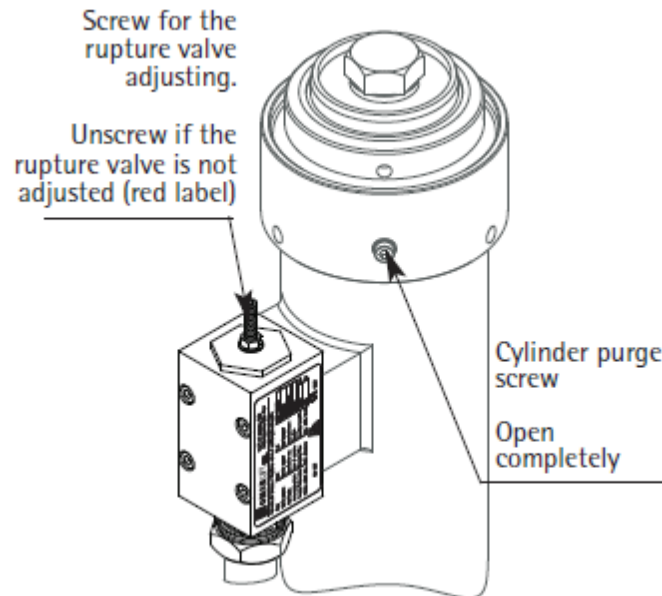

Figure 9 – Position of Screws for purge and for the rupture valve regulation
-  Operate as follows to get rid of the air completely (see Figure 9).